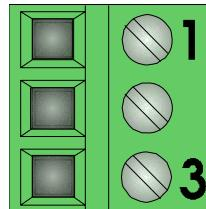

Figure 4-3 - Power Supply/Monitor Module Connector TB1
4.2.3 Power Supply Input Connector (see Figure 4-3 & Table 4-4)